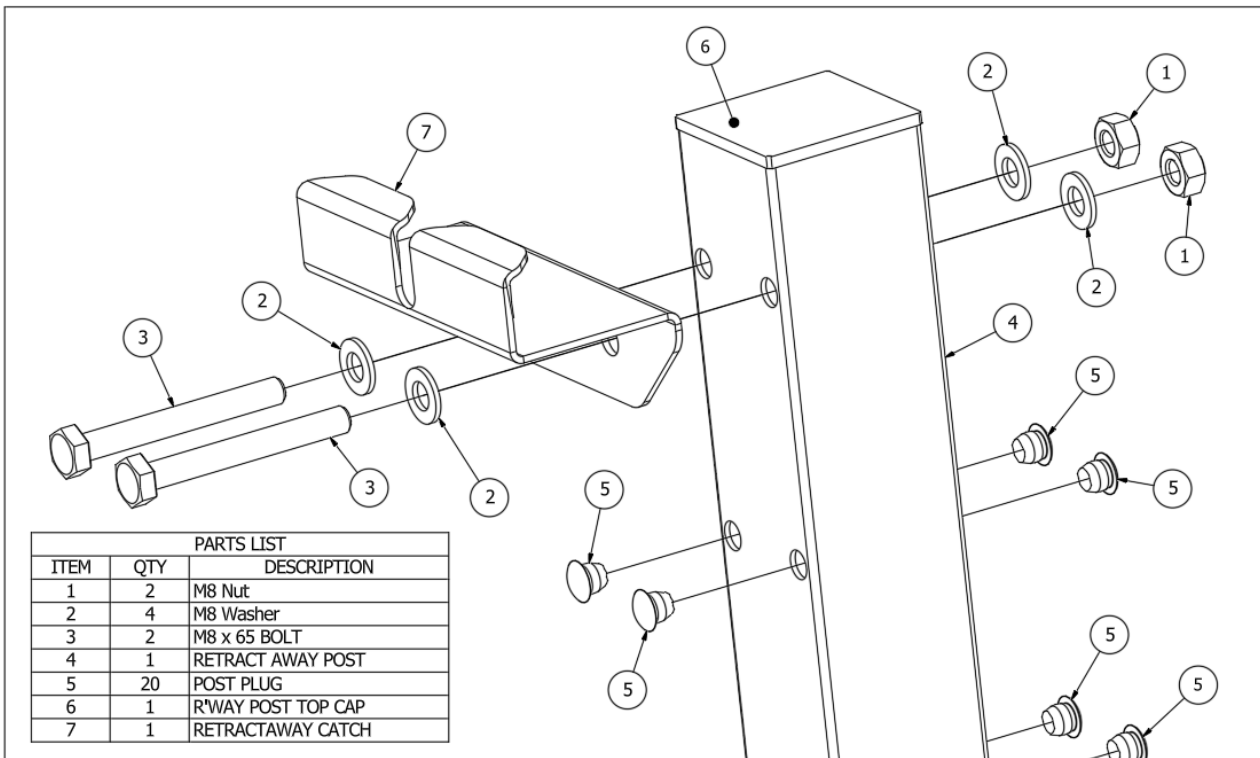

Fig 4. Catch installation to Post.
- Fit the Catch (item 7) as shown in Fig 4.